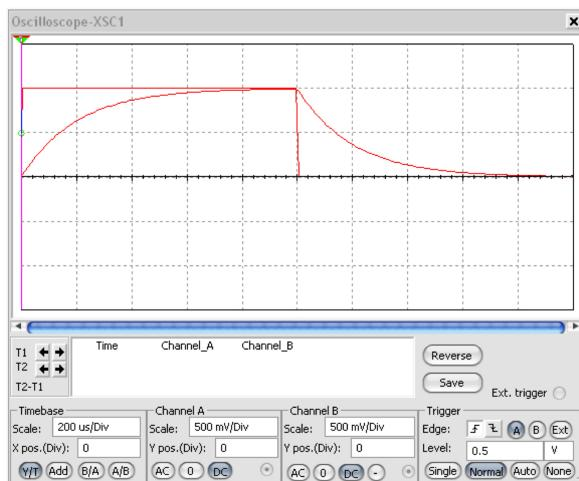

Figure 8: Output from Square Wave
6. **Simulate→Run** or the green triangle above your circuit. Your scope should look like Figure 8.